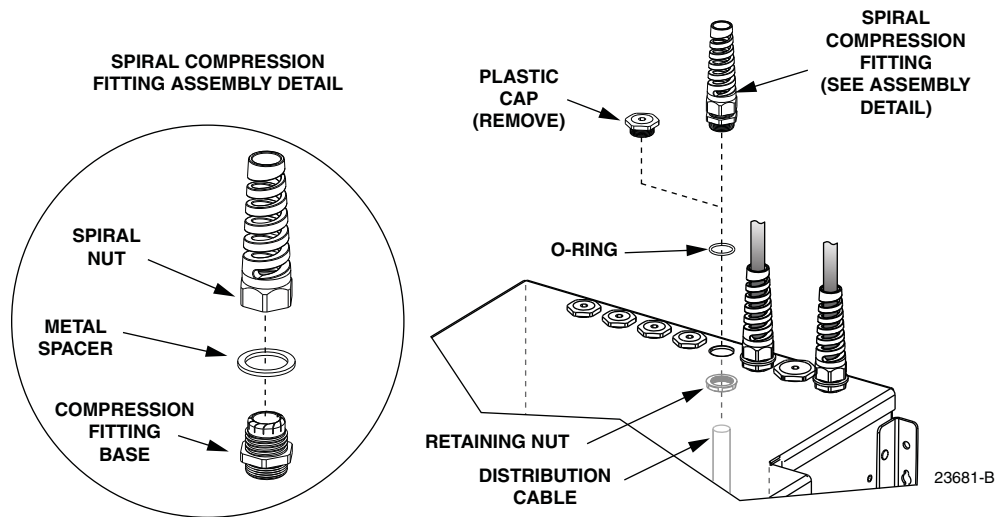

Figure 45. Plastic Cap Removal and Compression Fitting Installation
2. Remove plastic cap and retaining nut from the cable entry/exit hole as shown in Figure 45.